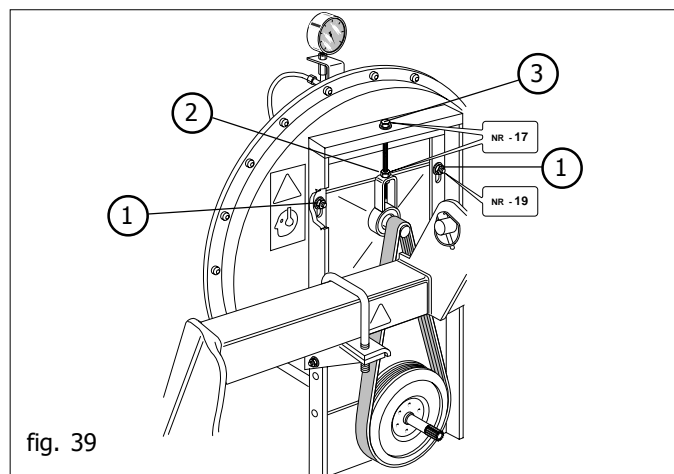

fig. 39
The aspirator (Fig. 39) creates a vacuum inside the distributors, so that the seeds are aspirated onto the holes in the plate. The tensioning and good condition of the belt are therefore of vital importance to ensure the good for the good operation of the aspirator and, hence, the success of the sowing.
- Loosen the 4 screws (1 Fig. 39)
- Loosen the nut (2 Fig. 39)
- Tension the belt by tightening the screws (3 Fig. 39).
- Check the tensioning of the aspirator belt (Fig. 39).